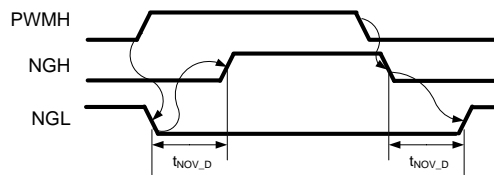

Figure 1: Local Mode operation
- Local Mode: PWML and PWMH are generated out of one input signal (PWMH) and proper non overlapping timing is managed locally on the CMT-TIT8243/8244 board (cfr Figure 1)